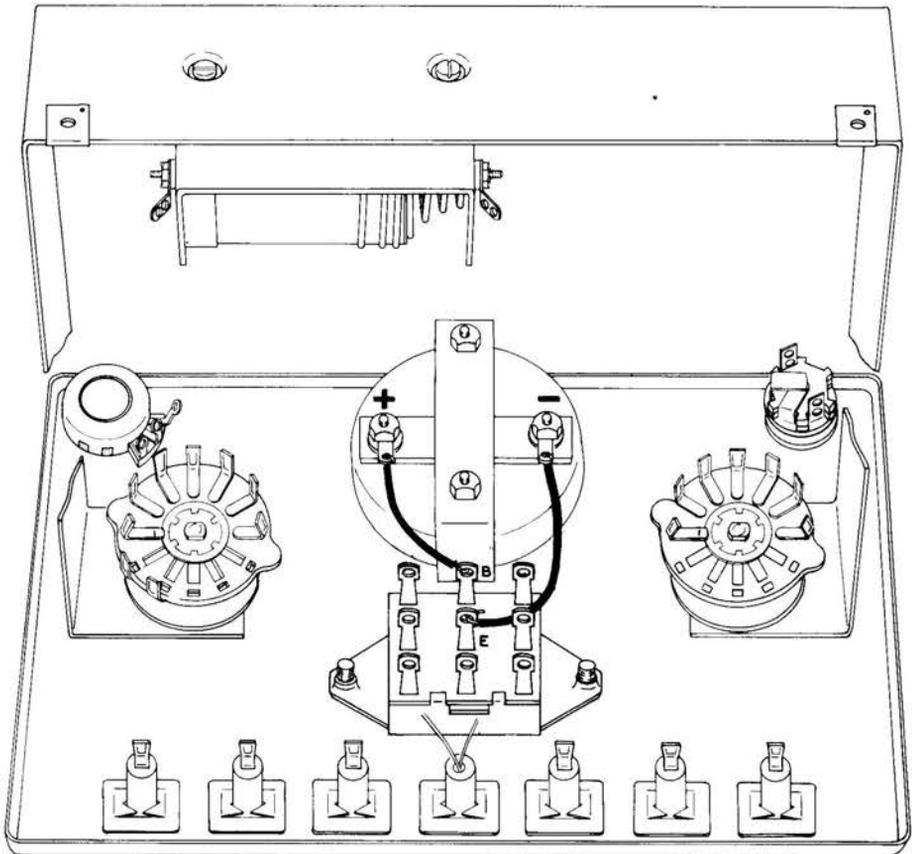

Figure 3-15
- (2) Unsolder the wire from the red banana jack. Trim this wire appropriately and resolder it to slide switch terminal (B). See Figure 3-15.
- () In the same manner, unsolder the wire from the black banana jack, trim and resolder it to slide switch terminal (E), Figure 3-15.